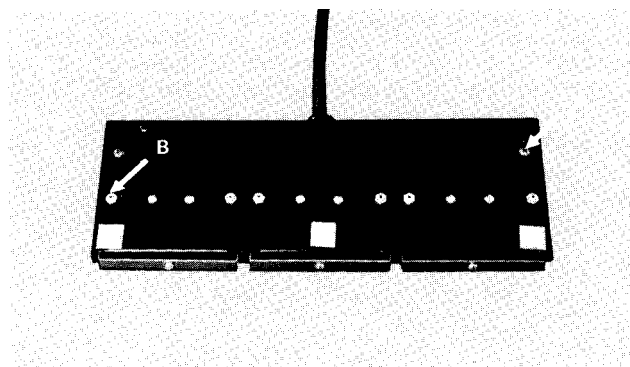

Fig. 35
- 1) Remove wire cover by removing 2 screws (Item A, Fig. 35).
- 1) Loosen lock nut (Item B, Fig. 35).